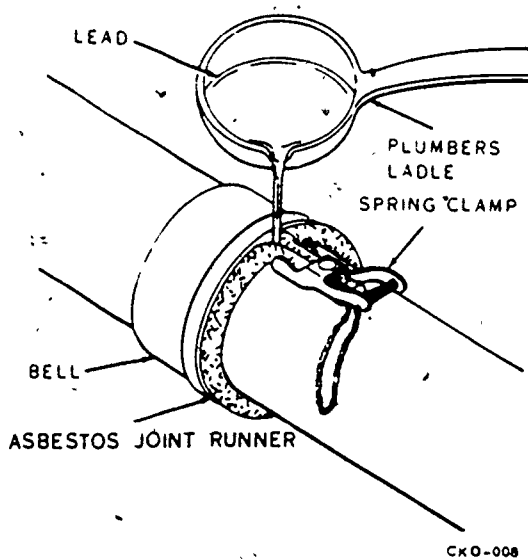

Figure 3-38 Pouring joint using asbestos joint runner.
**Joint runners.** Joint runners may be made of asbestos or rubber. They are placed around the pipe next to the bell of a cast-iron soil pipe, when joints are made in horizontal pipe, before lead is poured in the joint. The runner keeps the lead in place inside the bell until it hardens. Figure 3-38 shows a plumber pouring a joint using the asbestos joint runner. The procedure is exactly the same for the rubber joint runner. Joint runners may be used to pour hot bituminous compounds into vitrified clay pipe hub and spigot joints. Many plumbers like to use an asbestos runner that has been soaked in oil. The oil keeps the runner flexible and from sticking to the lead and bituminous material.